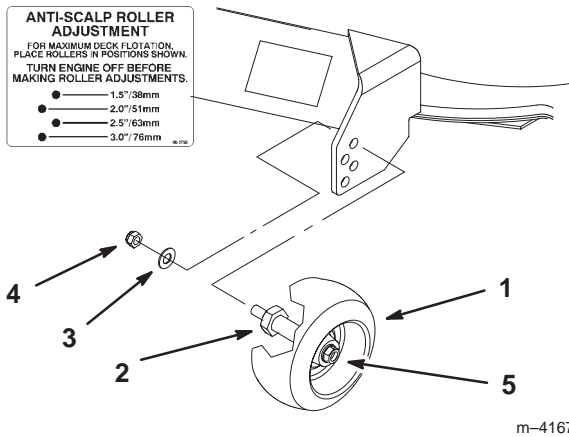

Figure 20
2. After adjusting the height-of-cut, remove the nut and washer while holding the stud with a wrench (Fig. 20).
Note: Do not remove the wheel nut and washer (Fig. 20).
3. Select a hole so that the gage wheel is positioned to the nearest corresponding height-of-cut desired (Fig. 20).
- Reinstall the stud nut and washer (Fig. 20).